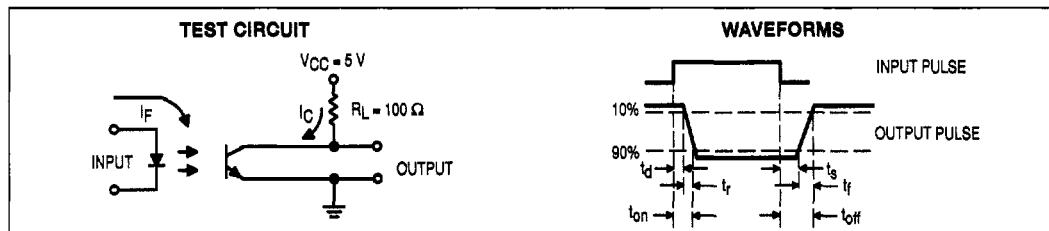

Figure 11. Switching Time Test Circuit and Waveforms
| Delay Time (IF = 10 mA, VCC = 5 V, RL = 75 Ω, Figure 11) | td | — | 1.6 | 5.6 | µs |
| Rise Time (IF = 10 mA, VCC = 5 V, RL = 75 Ω, Figure 11) | tr | — | 1.6 | 4 | µs |
| Storage Time (IF = 10 mA, VCC = 5 V, RL = 75 Ω, Figure 11) | ts | — | 0.7 | 4.1 | µs |
| Fall Time (IF = 10 mA, VCC = 5 V, RL = 75 Ω, Figure 11) | tf | — | 2.3 | 3.5 | µs |
3. For test circuit setup and waveforms, refer to Figure 11.